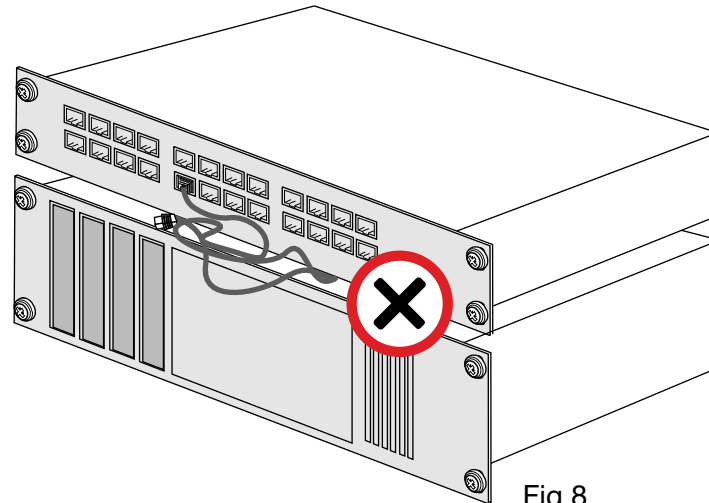

Fig 8
- Ensure that any wiring/looms/cable management systems etc do not get caught or trapped between adjacent pieces of racking equipment when being installed or following installation (Fig 8)